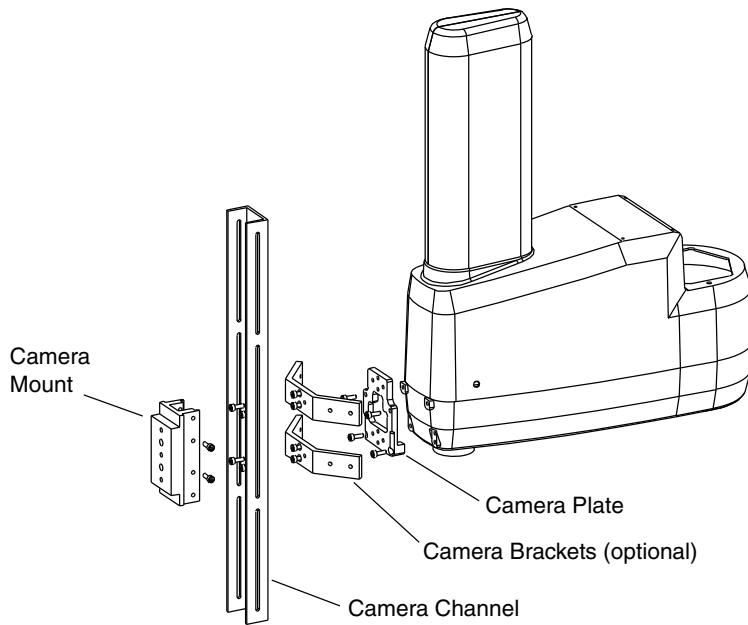

Figure 6-14. Mounting a Camera on the Robot
1. Install the camera plate to the outer link with four M5 X 12 mm screws. See Figure 6-14 as you perform this procedure.